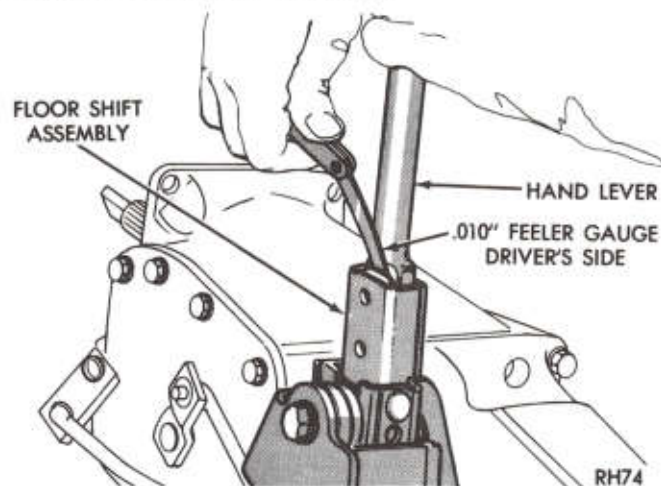

Fig. 3—Remove Hand Lever
Removal (Figs. 3 and 4)
- (1) Disconnect negative (ground) cable from the battery.
- (2) Remove retaining screws from floor pan boot and slide up and off hand lever.
- (3) Remove hand lever (Fig. 3).
- (4) Remove retaining clips, washers, and control rods from shift unit levers.
- (5) Remove 2 bolts and washers which secure shift unit to mounting plate on extension housing and remove unit.